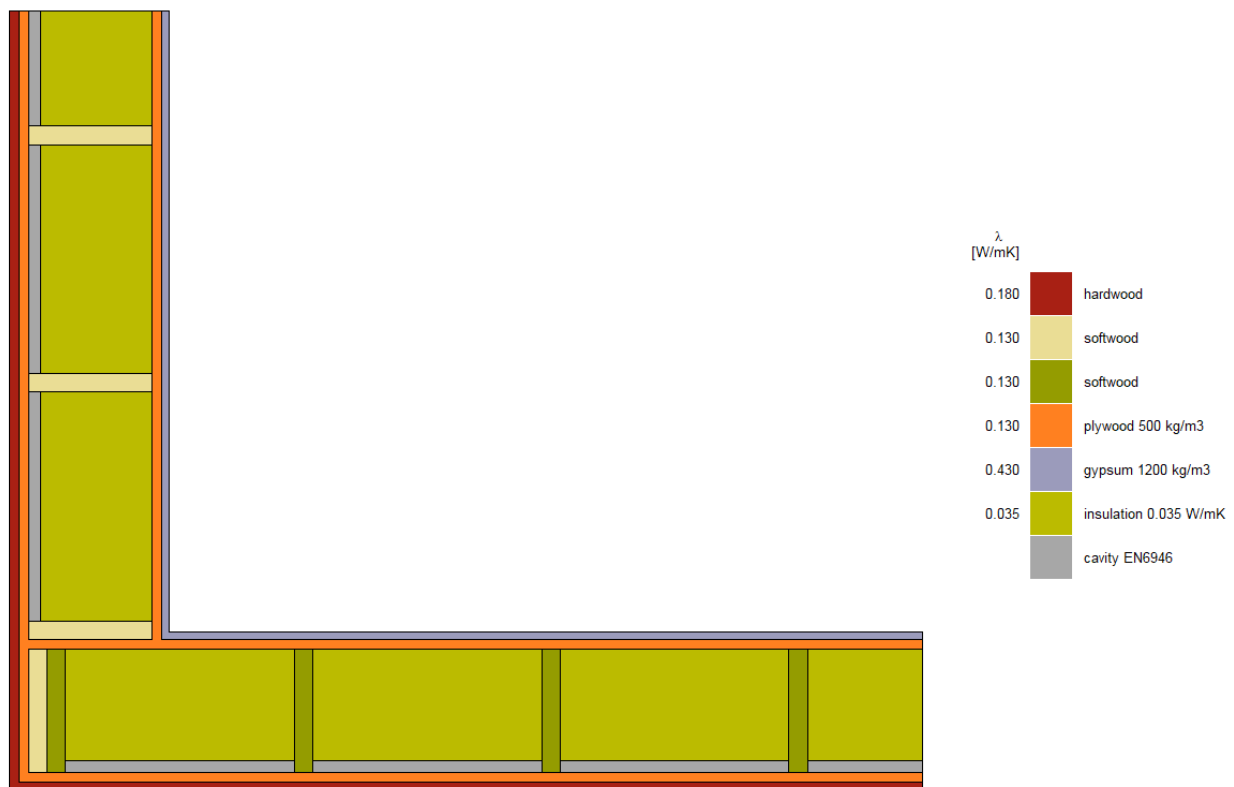
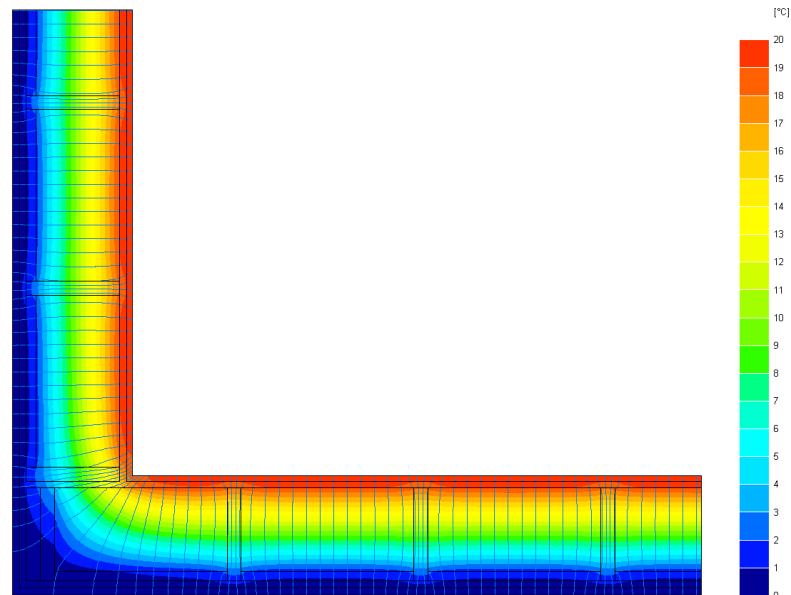
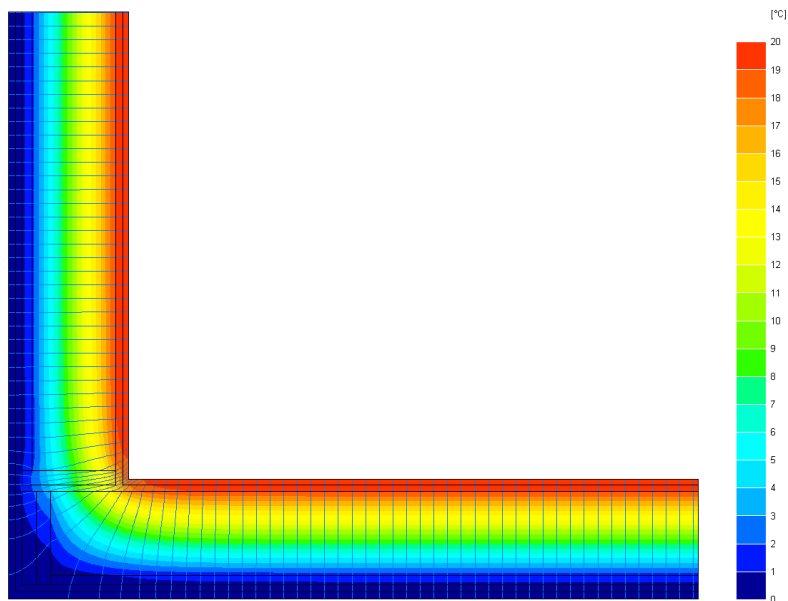

Figure 1: horizontal section of a wooden frame corner
Figure 2: isotherms and heat flow lines (increment 0.1 W/m)
Figure 4: wall section without wall studs - isotherms and heat flow lines (increment 0.1 W/m)
Figure 1 shows the data of the wooden frame corner. Figure 2 shows the isotherms and heat flow lines obtained by TRISCO or BISCO. The wooden studs cause some thermal bridge effect. The calculation of the linear thermal transmittance of the corner requires vigilance:
- The calculation results (Figure 2) consider both the wall thermal bridges and the corner thermal bridge.
It can be seen in Figure 2 that the wall studs do not affect the 2D heat transfer in the corner. Therefore the corner linear thermal transmittance can be evaluated from a simulation omitting the wall studs (Figure 4).